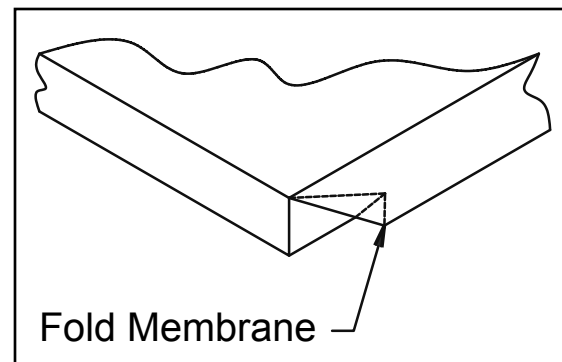

Figure 4
- Fold all four corners of the membrane roofing material over the walk-in corners as shown in Figure 4.